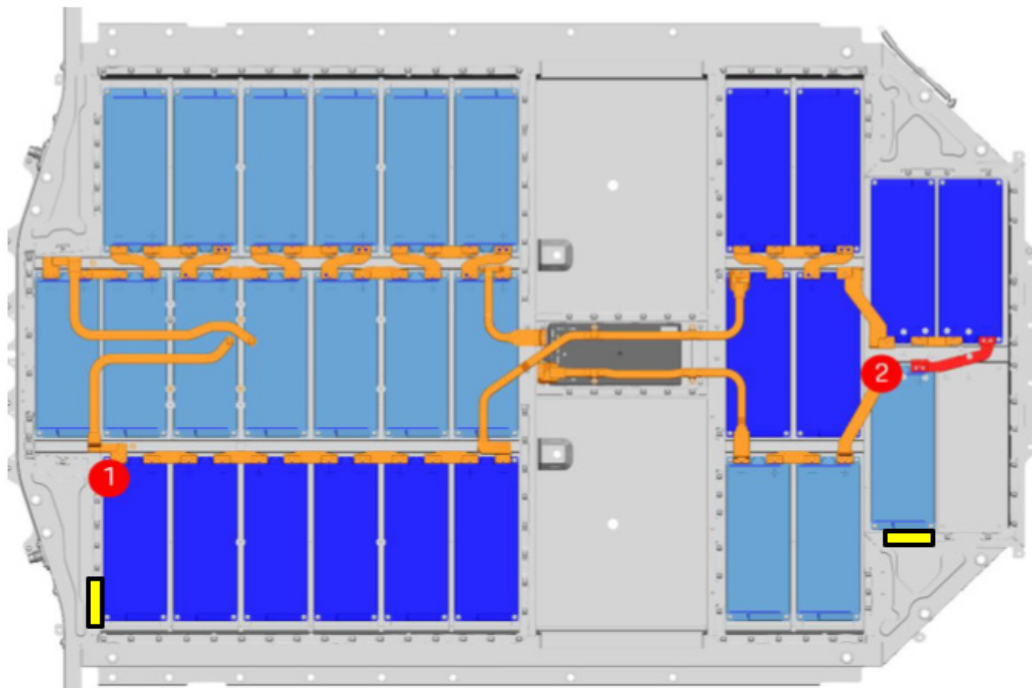

Figure 1 - 28-module HV Battery measurement points
- Suggested grounding points for DST and IR testing on both 28- and 33-module Taycan battery packs have been modified from WM 270803A5 and are detailed below in *figures 1 and 2*.
DST Procedure for 28-module Taycan Battery Pack (Figure 1)
- The yellow boxes in *Figure 1* designate the sections of frame where a lid screw can be hand-started to ground the dielectric strength tester.
- Perform IR tests at each measurement point in *Figures 1 and 3* before and after a DST at that point.
- Discharge capacitance and remove all the busbars from modules of failed section(s) differentiated by light and dark blue in *Figures 1 and 3*.